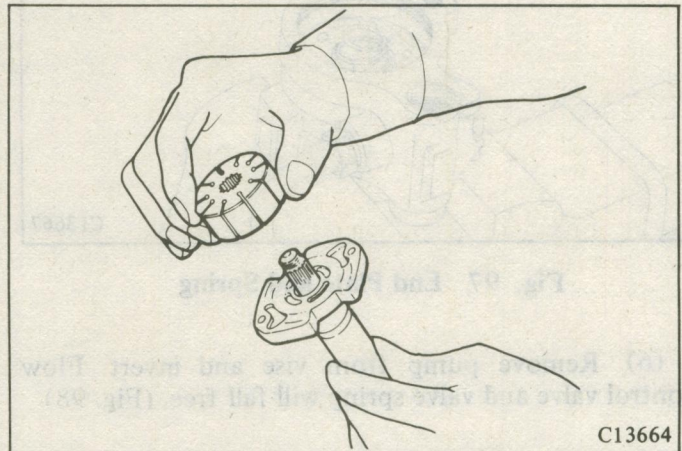

Fig. 102 Installing the Thrust Plate and Rotor
(4) Insert drive shaft through thrust plate and rotor, and install new snap ring on drive shaft. (Fig. 102)